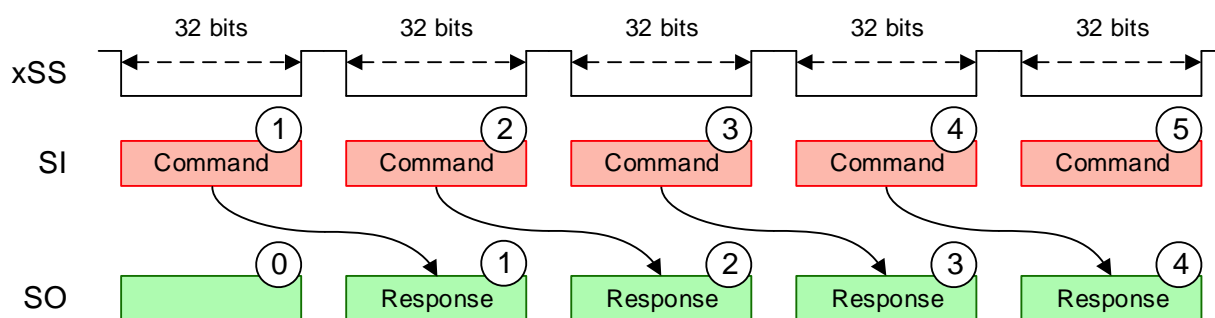

Figure 21: SPI Overlapped Packet Structure
SPI communication uses an overlapped packet structure where the response to a command is returned while the next command is being sent. Figure 21 shows this for a single-device application, where the host controls a single iC-TW28 slave (see Figure 20). See Bussing Multiple iC-TW28s on page 75 and Chaining Multiple iC-TW28s on page 76 for information on multiple-device applications.
SPI command and response packets are always 32 bits long and sent most-significant bit first. The host initiates communication with the iC-TW28 by driving Slave Select (xSS) low and then clocking a 32-bit command (1) to the Slave Input, SI. The serial clock (SCLK) signal is not shown in Figure 21. The host drives xSS high at the end of the command packet and the iC-TW28 executes the command.